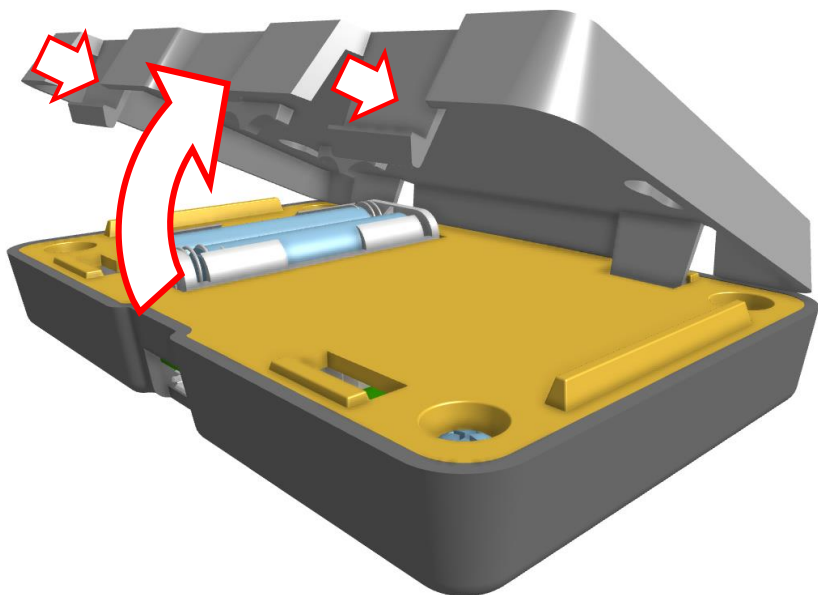

Figure 3 - Wall Mount Removal
1. Press the two release tabs on the bottom as shown in Figure 3.